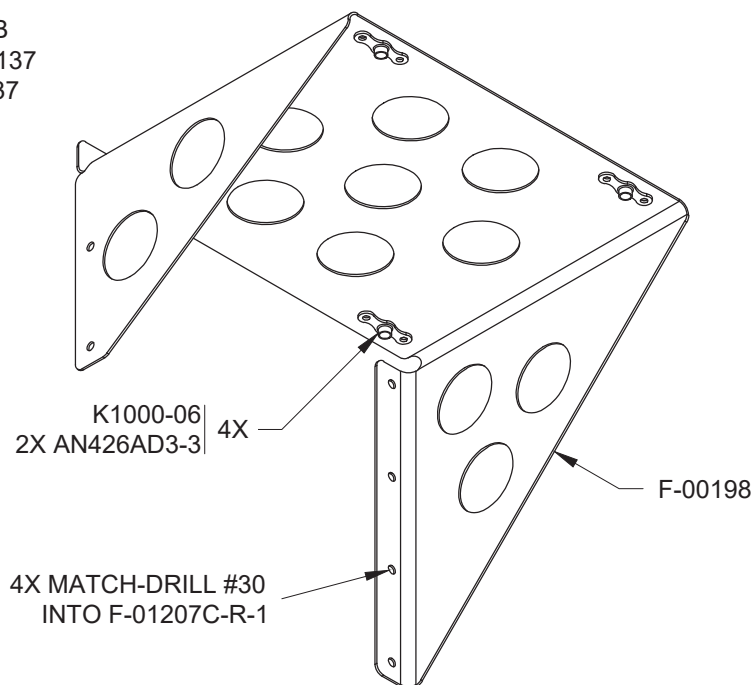

FIGURE 1: F-00198 GDL 5XR BRACKET
Step 1: Machine countersink the nutplate attach holes and install nutplates on the underside of the F-00198 as shown in Figure 1.
Step 3: Cleco the F-00198 to the F-01207C-R-1 using the upper four holes. Match-Drill #30 the four holes in the right side flange into the F-01207C-R-1. See Figure 1.